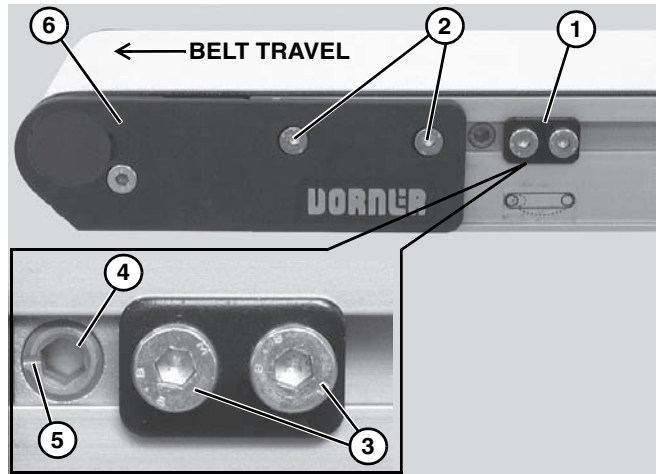

Figure 27
Non V-guided belt conveyors are equipped with belt tracking cam assemblies (**Figure 27, item 1**) for belt tracking adjustment.
5. Ensure head plate fastening screws (**Figure 27, item 2**) on both sides of conveyor are tightened.
6. On both sides of conveyor, loosen two (2) cam fastening screws (**Figure 27, item 3**). Adjust cams (**Figure 27, item 4**) until indicator slots (**Figure 27, item 5**) are horizontal and facing end of conveyor. Then slide cam assemblies against head plates (**Figure 27, item 6**) and re-tighten cam fastening screws (**Figure 27, item 3**) to 60 in-lb (7 Nm).
7. On the side toward which the belt is tracking, loosen head plate fastening screws (**Figure 27, item 2**).
8. With the conveyor running, use a 5 mm hex-key wrench to rotate the tracking cam (**Figure 27, item 4**) in small increments until the belt tracks in the center of the conveyor. Then while holding the cam in position, re-tighten the head plate fastening screws (**Figure 27, item 2**) with a 4 mm hex-key wrench to 60 in-lb (7 Nm).